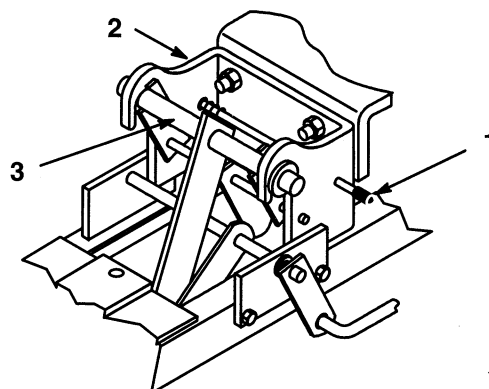

Figure 14
6. Push in on the front hitch release rod to open the hitch and remove blade lift arm (Fig. 14).
7. Remove hairpin cotter and clevis pin from idler pulley assembly, unhook and remove (Fig. 14).